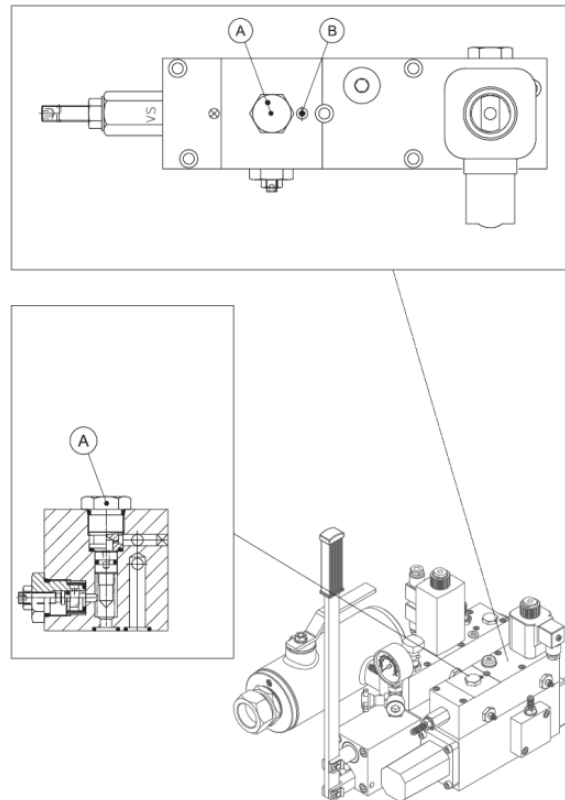

Figure 52 – Up travel block for direct start
- Clean the paint all around the cap "A" and the screw "B" (see Figure 52) of the upward block, using a solvent.